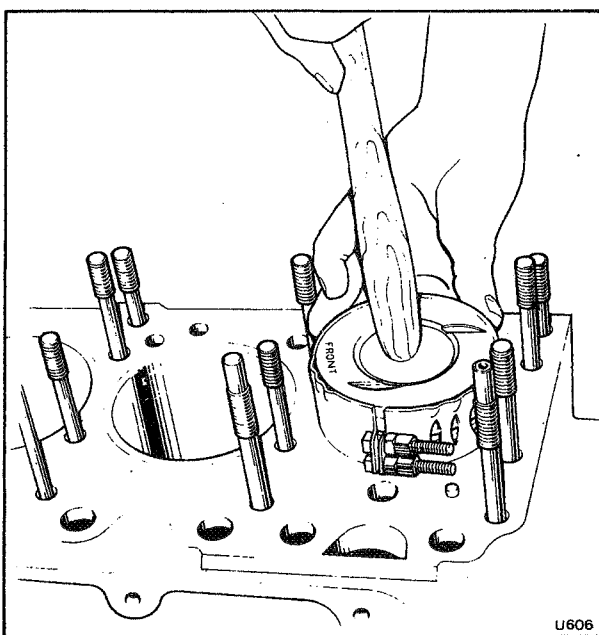

Fig. E25 Fitting a piston
6. Tighten the piston ring compressor, hold it against the cylinder liner and push the piston into the bore (see Fig. E25).